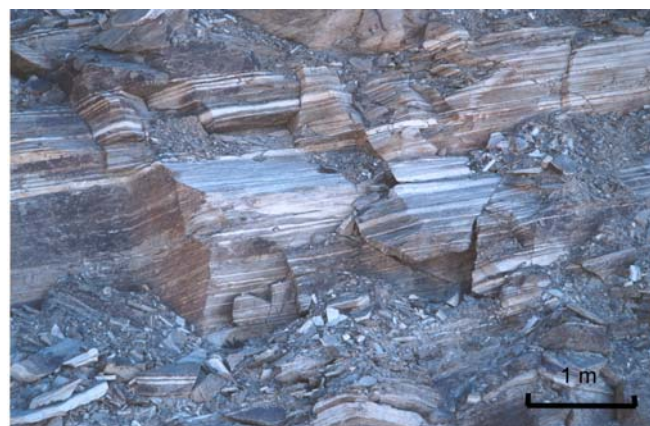
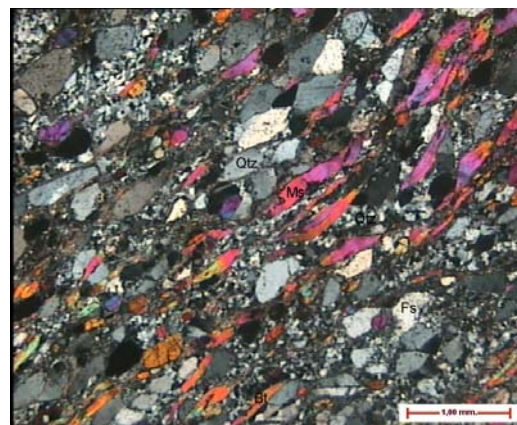

Figure 1a Banding in gneiss intact rock in a rock slope exposure.
Figure 1b Petrographic texture of gneiss, showing alternating layers of mica (Ms), quartz (Qtz) and feldspar (Fs) (x 25)
In order to measure the intact rock strength, it is essential that no micro-fractures or other discontinuities are present in the specimen, which is tested. This can be achieved by taking intact samples of the rock from the surrounding rock mass. The difficulty of preparing samples with no visible fracture or discontinuity depends on the nature of the rock, its tectonic history and its geological environment. On the other hand, the structural features that are responsible for "inherent" anisotropy, discussed in the present work, mainly the alignment of rock-forming crystals in intact rock cannot be excluded from the samples tested in the laboratory when determining the rock strength. The "inherent" anisotropy due to the existence of bedding, foliation and schistosity is obvious in the macro-scale (in the order of meters), as presented in Figure 1a but its genesis originates from the micro-scale (in the order of millimeters), as shown in Figure 1b.
- a) a muscovite gneiss (denoted as gneiss A) with fine-grained texture (due to the elongation of micas) which consists of very thin bands rich in micas alternating with bands rich in crystals of quartz and feldspars. The bands vary in thickness from 0.2 to 0.5 mm resulting to a very well developed gneiss banding (Figure 1a).